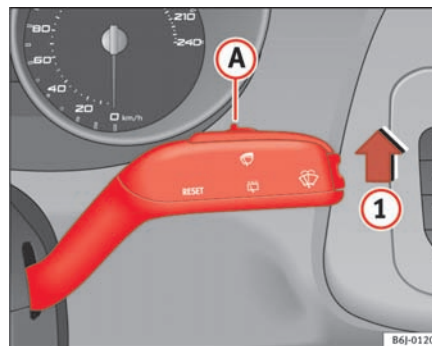

Fig. 61 Windscreen wiper lever
- Move the windscreen wiper lever into position **1** ⇒ fig. 61.